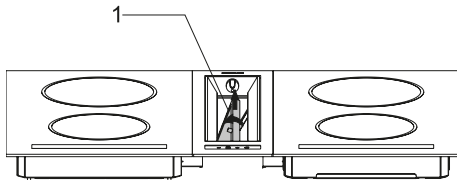

Fig. 10
2. → 1 - Pull the oil filter in the direction of the arrow to yourself (Fig. 10).
2 - Pull the oil filter in the direction of the arrow upwards (Fig. 10).
2. ➔ Clean the metal oil filter (Fig. 10).